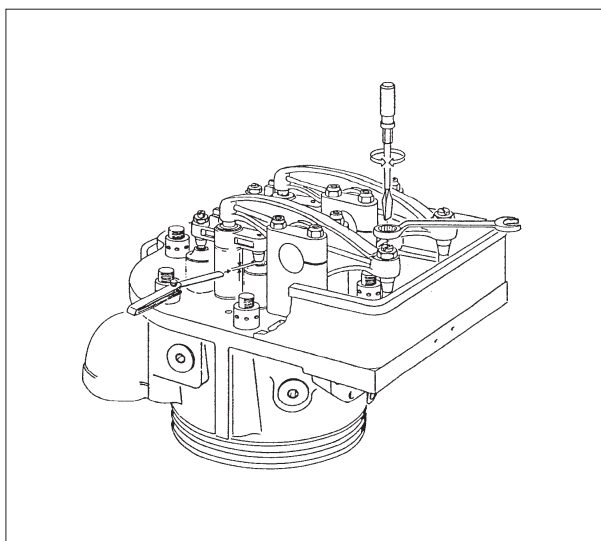

Fig. 1.
- 2) Loosen the adjustment screws on valve bridge and rocker arm, see fig. 1.
- 4) Place the feeler gauge marked with "correct" 0,4 mm above the valve spindle nearest to the rocker arm bracket, see fig. 1.